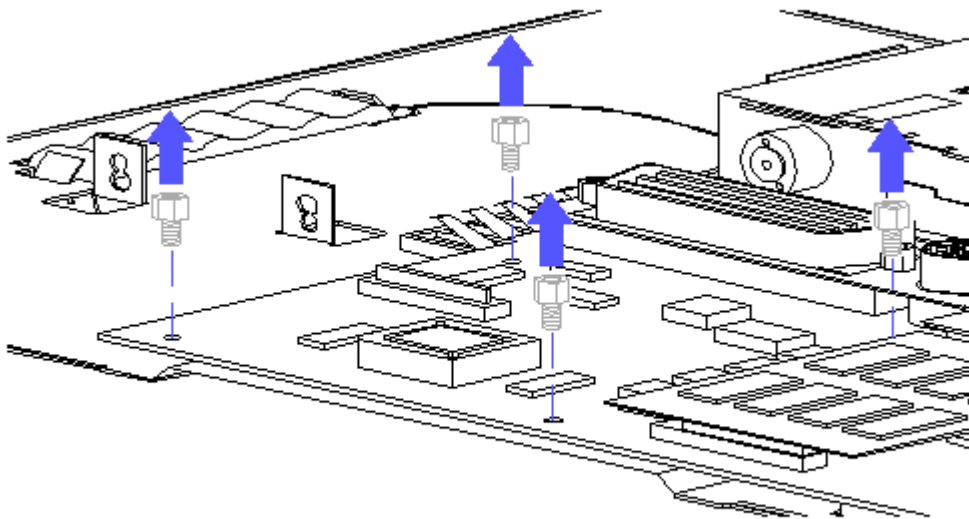

Figure 3-66. Removing the Power Supply Screw Locks
- e. Remove the four power supply screw locks (Figure 3-66).